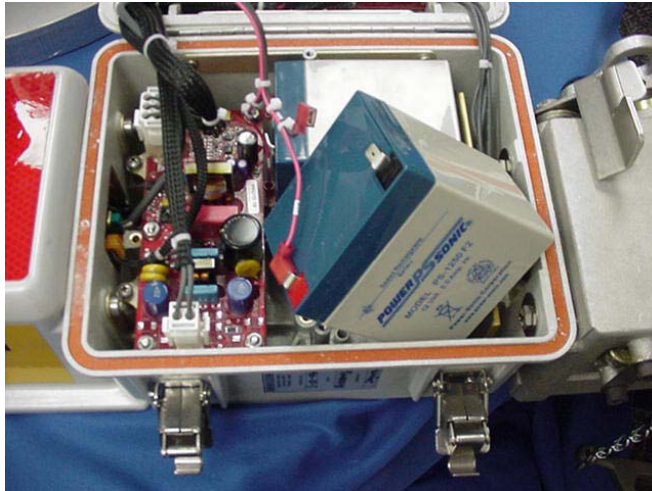

Figure 8
8. Lift the left Battery #1 from enclosure and disconnect RED lead, ¼-Stackon. See Figure 8.
9. Lift the right Battery #2 from enclosure and disconnect RED lead, ¼-Stackon. See Figure 8.
12. On Battery #2 (right) location, connect RED, then BLACK leads, ¼-Stackon and set fully into location. See Figure 8.
13. On Battery #1 (left) location, connect RED, then BLACK leads, ¼-Stackon and set fully into location. See Figure 8.